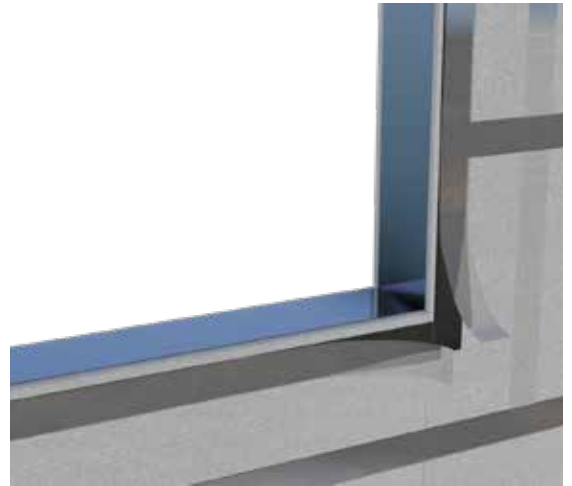

Fig. 1
- Apply Probreathe FR Duo Tape to the substrate at 500mm centres - see Fig. 1.